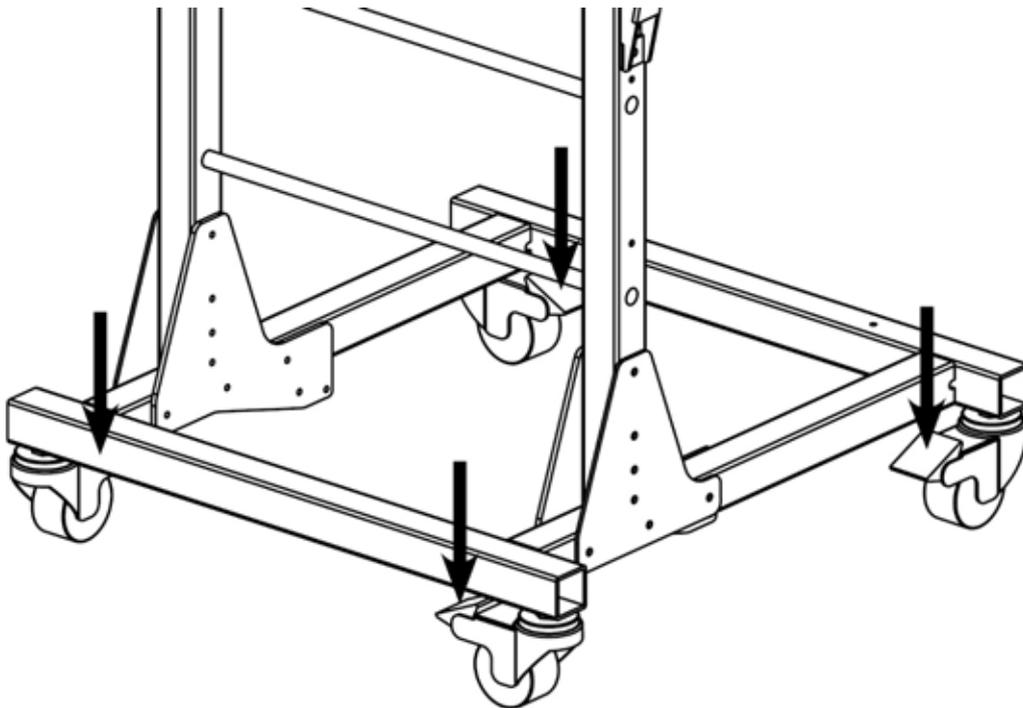

Figure 12 Swivel Casters with Brakes
4. Push the **Dispenser** Head Angle Adjuster Handle in to engage the pin in the notch (refer to Figure 12).